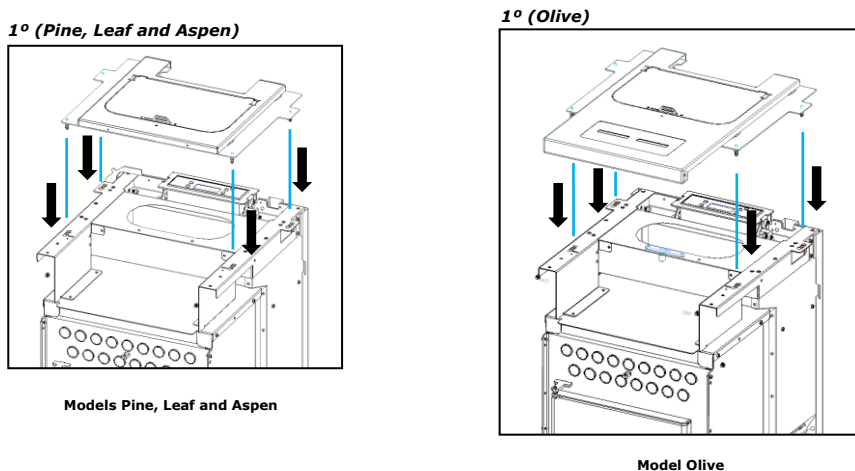

Figure 35 - Top cover placement
a) Fit the top plate as shown in Figure 35. To ensure that the top is properly seated, it contains four pins on the bottom that should fit the springs in the frame.